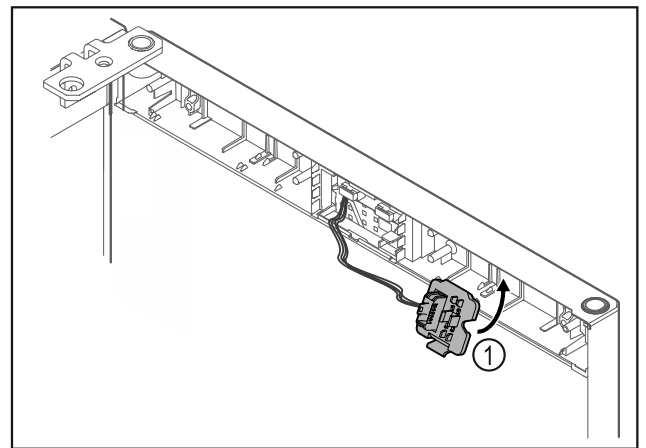

Fig. 12
- ▶ Engage the plug holder Fig. 12 (1) on the opposite side.\*